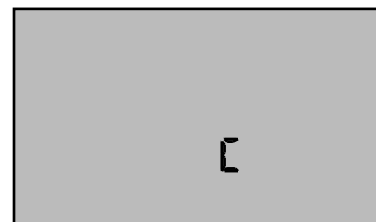

Figure 8
3. Press  repeatedly until you pass the memory "CLR ALL" location. The display will show a "C" or "F" (see Figures 8 & 9).